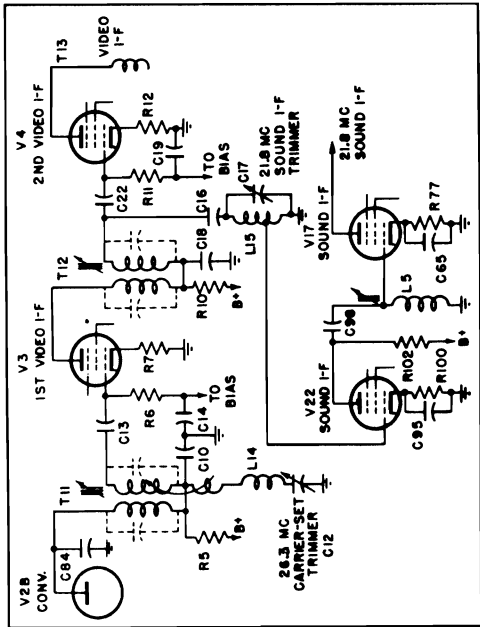

Fig. 3. Video and Audio I-F Amplifier
2. VIDEO AND AUDIO I-F AMPLIFIERS (SEE FIGURE 3)—The video i-f amplifier makes use of a three-stage bandpass amplifier using three Type 6AU6 tubes. The transformers, T11, T12, T13, and T14, are overcoupled and then loaded with resistance in the